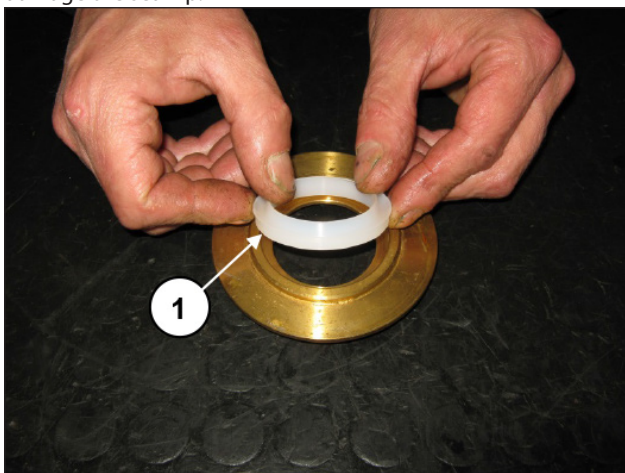

Fig. 121
Assemble the wiper in the housing on the support (pos. ①, Fig. 121) using a buffer as necessary and taking care not to damage the seal lip.